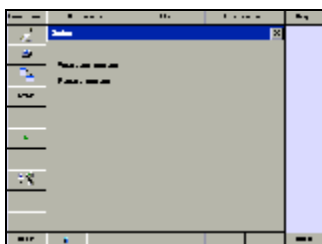

Fig.3.14
10. Select **Gasoline engine** as shown in Fig. 3.14